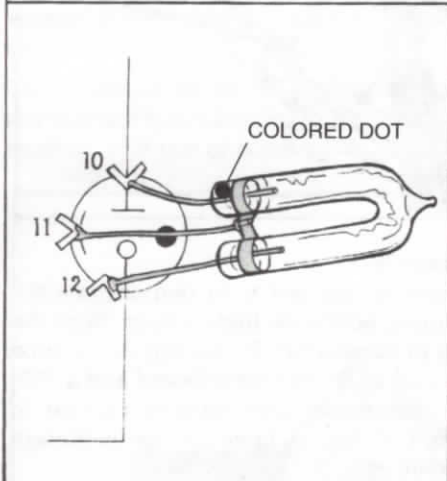

FIG. 33
8. Position the leads of the xenon tube V2 over pins 10, 11, and 12 as shown in Figure 33. Solder one lead to each pin. CAUTION: DO NOT BEND the leads of V2 any more than necessary, because this tube is very fragile and expensive to replace.